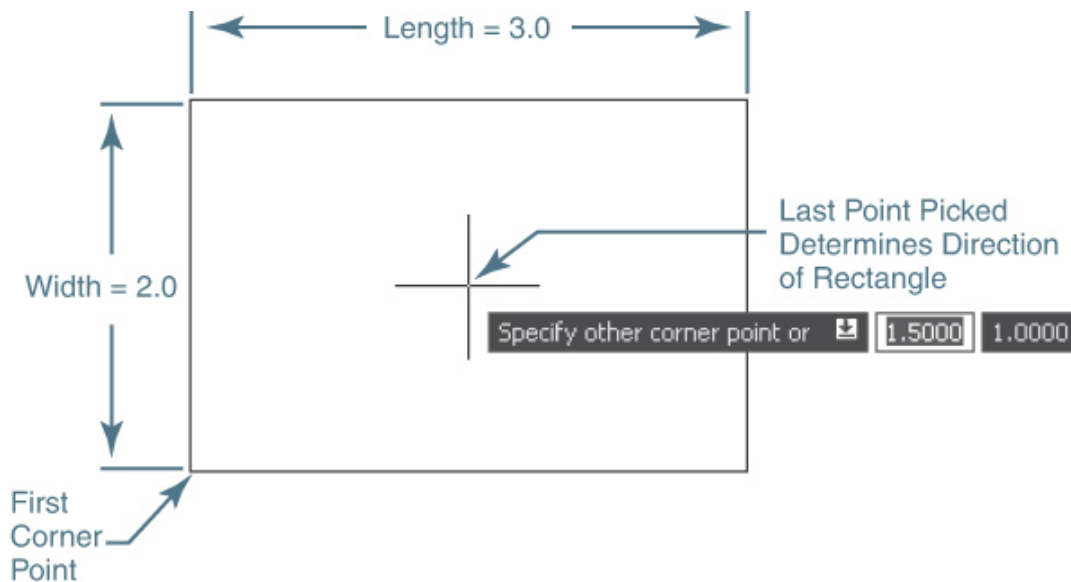

Figure 9-22
pick determines the rectangle's orientation, as shown in Figure 9-22.
- 3 Create a 3.000" × 2.000" rectangle similar to the rectangle shown in Figure 9-22 in another location using the **RECTANG** command and the **Dimensions** option to input the length and width.